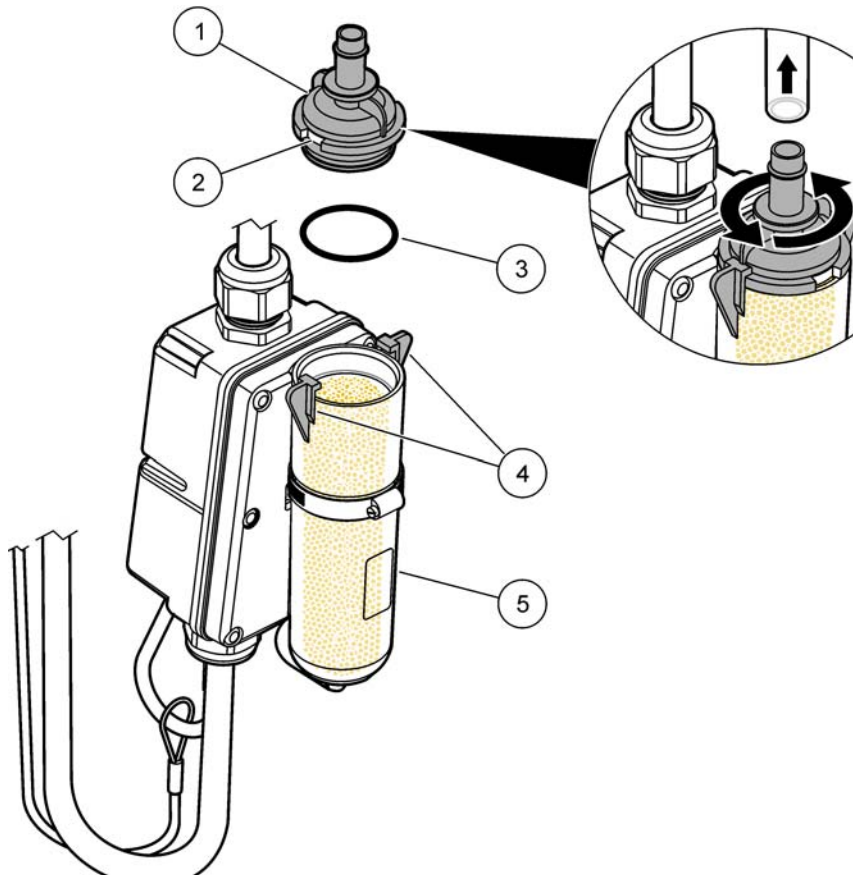

Figure 8 Remove the bottom end cap
1. Use a slight twisting motion to twist the bottom end-cap until its slots align with the retaining clips (Figure 8).
For best performance and to avoid grease buildup on the filter during submergence or surcharge conditions, hang the canister vertically so that the end cap points downward (refer to Figure 8).